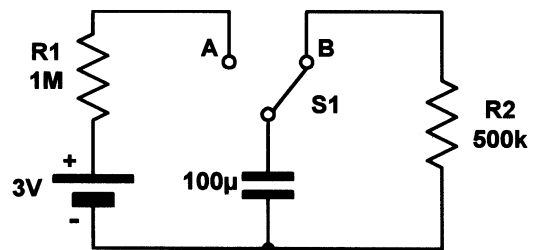

Figure A2.10
21. Assuming that the capacitor shown in Fig. A2.10 is initially fully discharged (by switching to position B), determine the current in  $R1$  at the instant that  $S1$  is switched to position A.